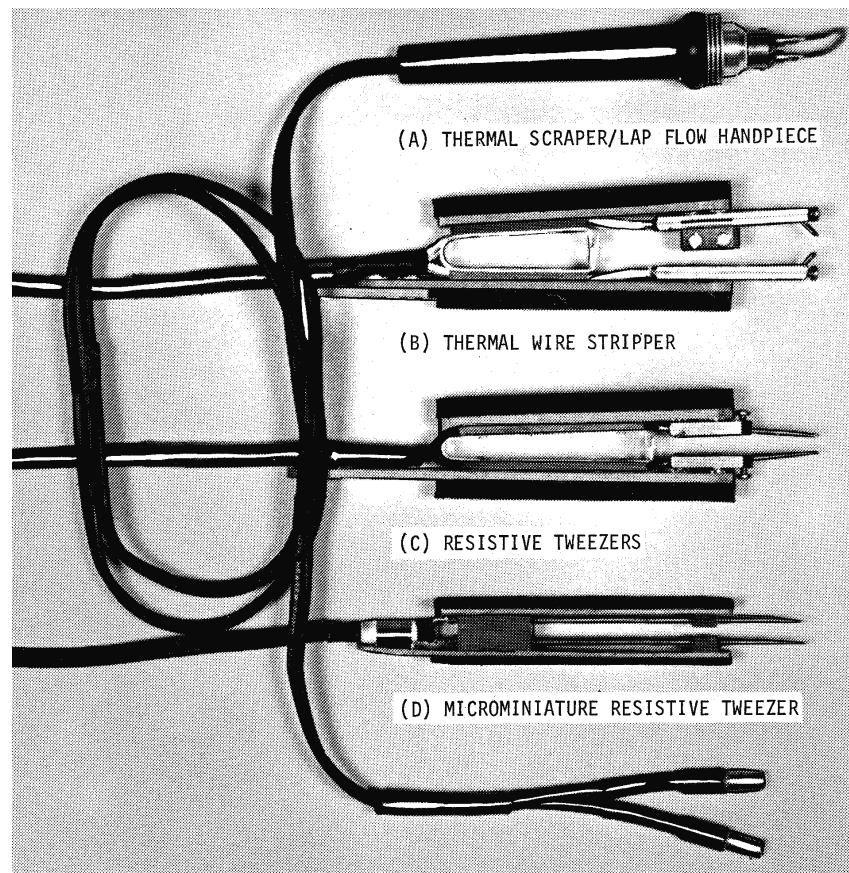

Figure 2-2.—Low voltage Handpiece.
The handpieces used with the power unit are shown in figures 2-2 and 2-3. The lap flow handpiece, view (A) of figure 2-2, is used with the variable low-voltage power source. This handpiece allows removal of conformal coatings, release of sweat joints, and lap flow soldering capability. (Lap flow soldering will be discussed in topic 3.) The thermal wire stripper in view (B) is used to remove insulation from various sizes of wire easily and cleanly.